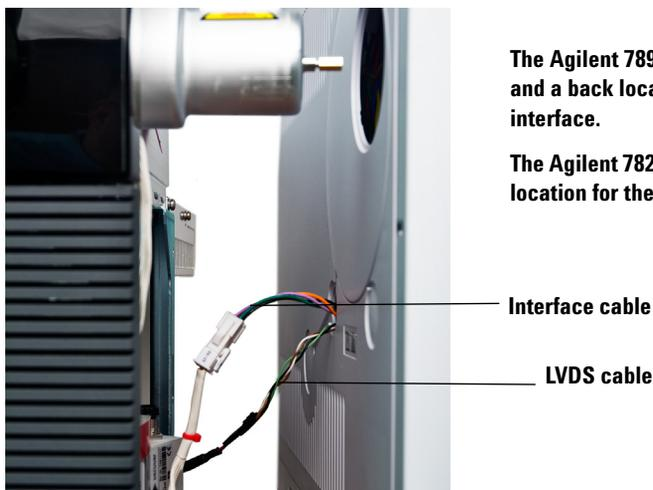

Figure 5 Separating and connecting the MSD and GC
- 5 Move the MSD away from the GC until you have access to the GC/MSD interface cable (Figure 5).